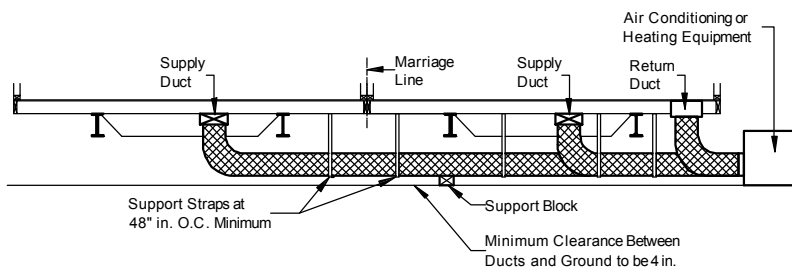

Figure 89. Ducts connecting exterior heating and/or cooling equipment to the home
2. **Install ducts.** Install the appropriate supply and return ducts (not provided) between the remote unit and the home (**Figure 89**), making connections according to the instructions for crossover ducts in **Crossover Connections** (p. 59).
Prepare the whole-house ventilation system according to the ventilation system manufacturer's instructions. Confirm that any fresh air intake ducts extend to the exterior and do not draw air from the crawlspace under the home. Do not allow any fresh air ventilation intake ducts to become kinked or restricted, forming a trap (**Figure 89**).